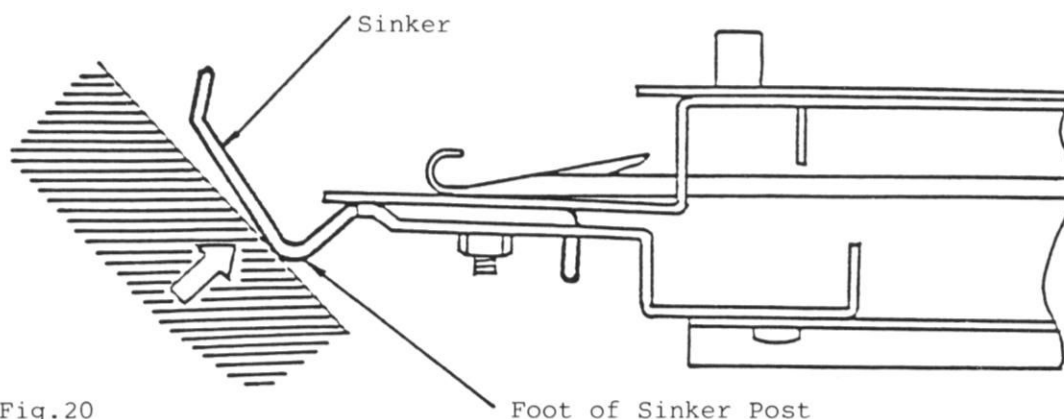

Fig.20
- b. Press the foot of the Sinker Post with the rounded part of a Wooden Hammer as shown in Fig.20.